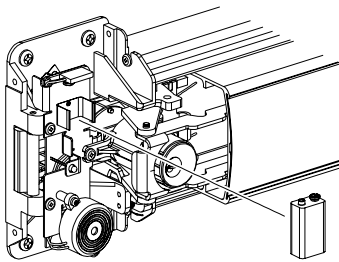
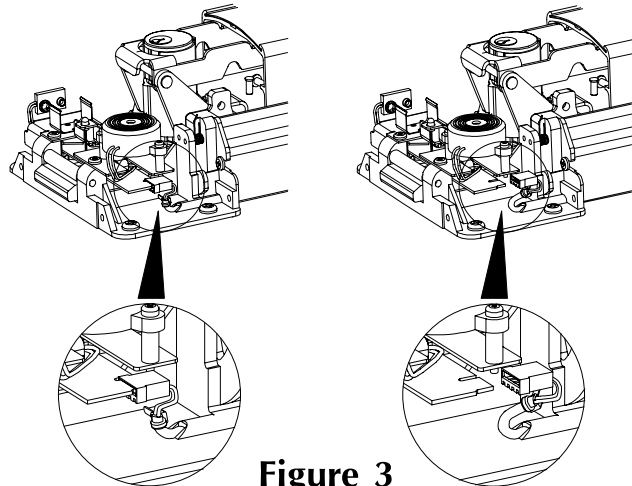

Figure 2
Figure 3
- 3** Remove 9 V battery (Figure 2). If using PT790 Plug-in Transformer Option, disconnect transformer cable from PC board (Figure 3).